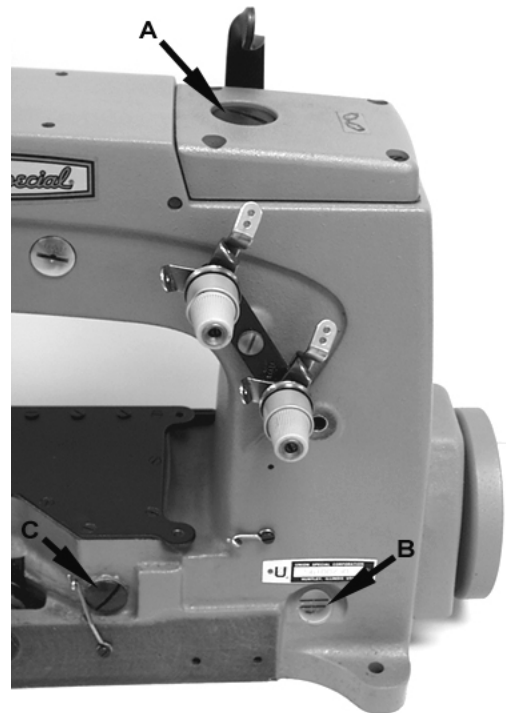

Fig 2
Before operating, fill machine with oil at plug screw (A, Fig. 2). While filling machine with oil, check gauge (B). When proper oil level is reached, the oil level should appear in the center between the two red lines on gauge (B). It is recommended to always check oil level before operating to be sure machine is filled between the lines. CAUTION: DO NOT over fill machine.